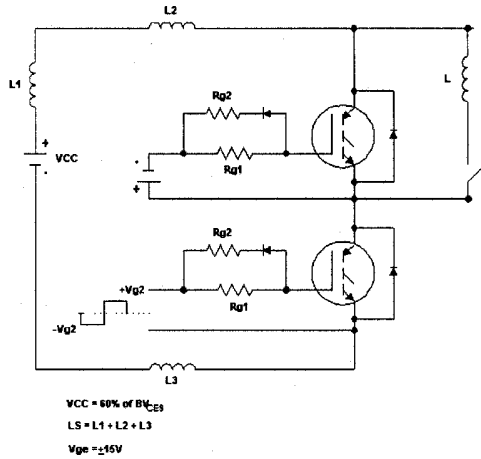

Fig. 17 - Test Circuit for Measurement of I_{LM} , E_{on} , $E_{off}(\text{diode})$, t_{rr} , Q_{rr} , I_{rr} , $t_{d(on)}$, t_r , $t_{d(off)}$, t_f
- ① Repetitive rating; $V_{GE} = 20V$, pulse width limited by max. junction temperature.
- ② See fig. 17
- ③ For screws M5x0.8
- ④ Pulse width 80µs; single shot.